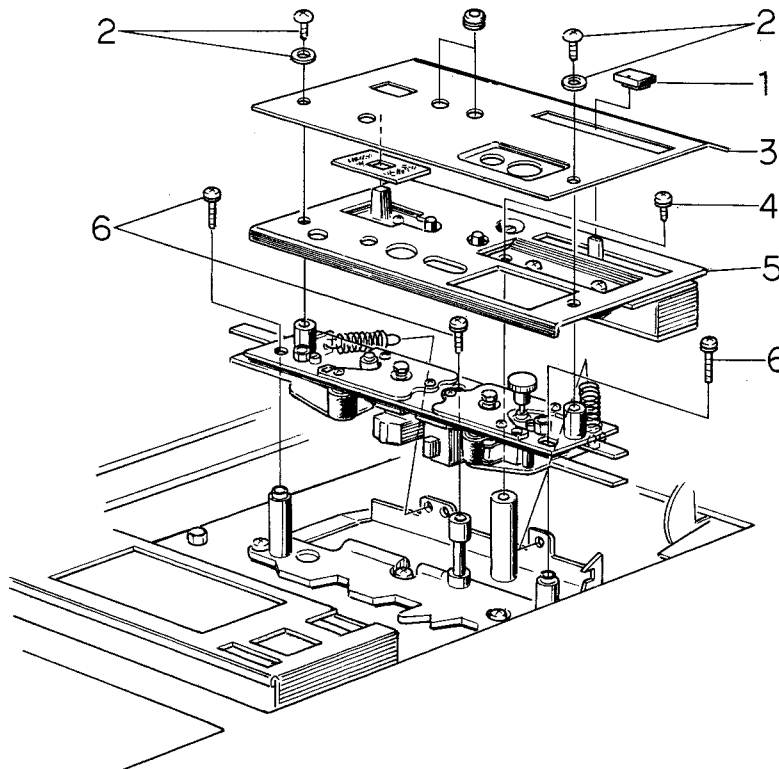

Fig. 6.8. Head Mount Base Ass'y
- (1) Remove the Adjustment Lid and Cassette Lid.
- (2) Referring to Fig. 6.8, remove Pitch Control Knob (1) and screws (2), then disassemble Mount Base Name Plate (3). Remove screw (4) then disassemble Mount Base Cover Ass'y (5). Remove screws (6 - 3 places), then disassemble Head Mount Base Ass'y.